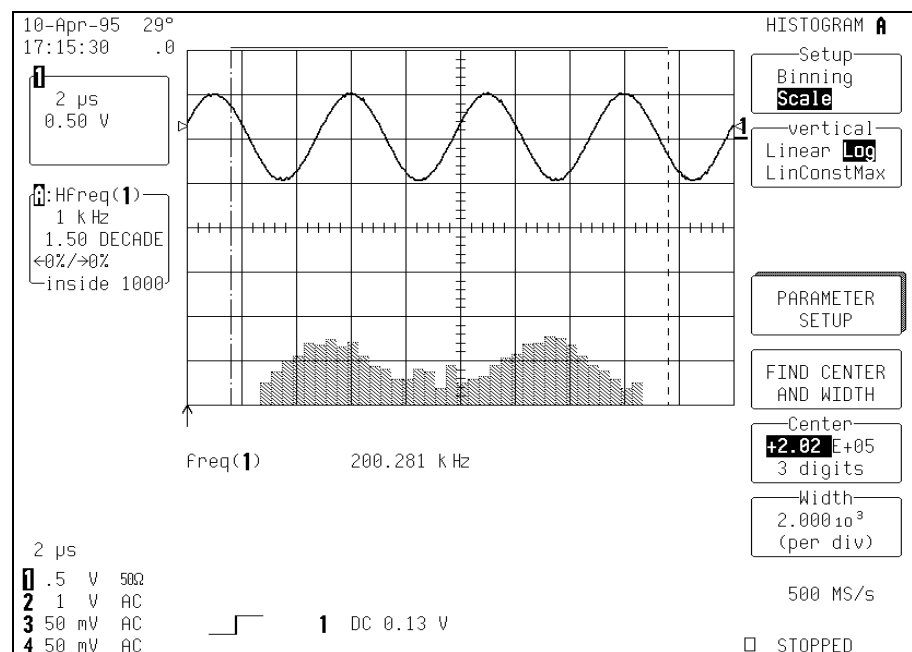

Figure 2.13
2. “Log” sets the vertical scale as logarithmic (Fig. 2.13). Because a value of ‘0’ cannot be specified logarithmically, no baseline is provided.